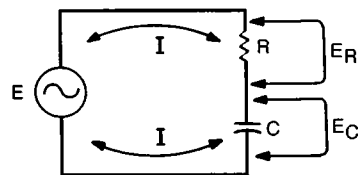
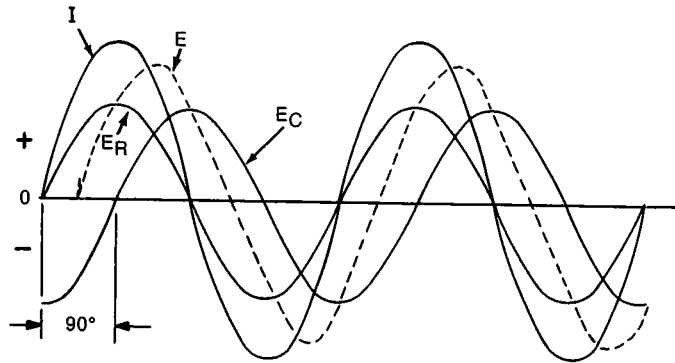

Figure 3-17
Figure 3-18
The simplest form of RC circuit is a single capacitor connected in series with a resistor. Figure 3-17 shows such a circuit connected to an AC voltage source. The source voltage is a sine wave, designated E , which causes current to flow in the circuit. The capacitor charges and discharges as the input voltage varies. The charging and discharging action of the capacitor causes a movement of electrons in the circuit. The charge on the capacitor causes a voltage to be developed across it. This voltage is designated E_C as shown in Figure 3-17. The voltage across the capacitor is a sine wave that lags the current flowing in the circuit by 90° . As you learned earlier, the current in a capacitive circuit leads the voltage across the capacitor by 90° .
Figure 3-18 shows the phase relationships of the various voltages and currents in this series RC circuit. In this illustration, the current sine wave, I , is used as the reference. As you should recall, one of the fundamental characteristics of a series circuit is that the current is common to all components. Note the voltage drop across the resistor (E_R). This voltage drop is in phase with the current. To see this, note that the maximum, minimum, and zero crossing points for the voltage waveform coincide with those of the current waveform.
Another important characteristic of capacitive AC circuits is that Kirchhoff's Law also applies. Kirchhoff's Voltage Law states that the sum of the voltage drops across the components in a series circuit must equal the applied voltage. This law is valid for the circuit in Figure 3-17. Now refer to Figure 3-18. To add E_R and E_C , you sum the amplitudes of the two sine waves at multiple points and plot the resulting curve. When you do this, you will obtain the sine wave represented by the dashed line in Figure 3-18. This waveform represents the applied voltage (E). Note that its amplitude is higher than either the resistor voltage or the capacitor voltage as you would expect. Another important point is that the applied voltage is not in phase with the current or with either the capacitor or resistor voltages. The current in the circuit leads the applied voltage as it will in any capacitive circuit. But since the circuit is not purely capacitive, the current leads the applied voltage by some angle less than 90° .